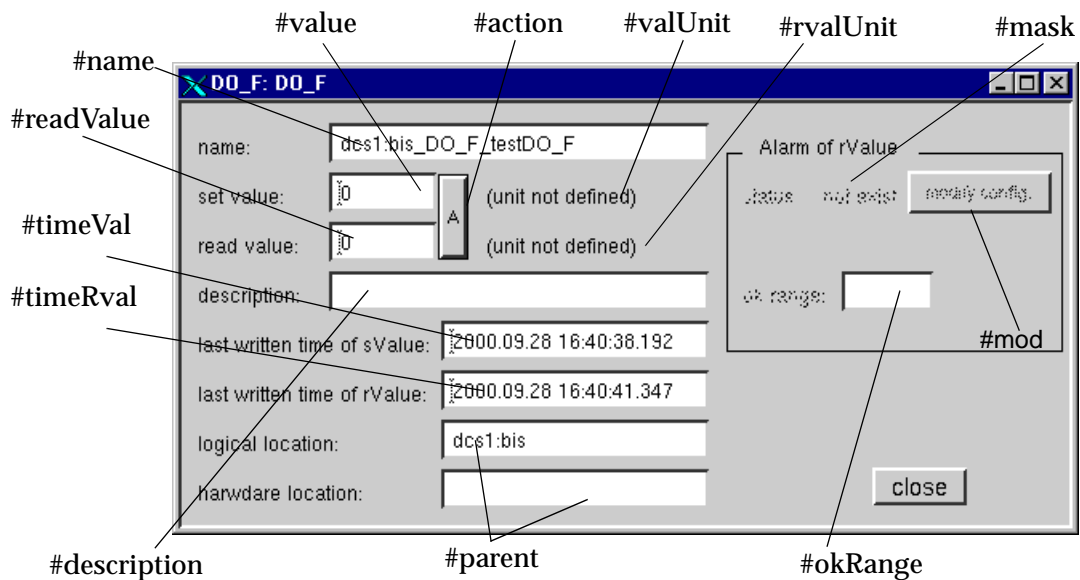

Figure 63: DO_F panel.
Shows the value of 'value' dpElement. The background color follows the rule: Background color convention (Figure 53) for leaf element. described above. E.g. in Figure 63 the
Shows the value of 'readValue' dpElement. The background color follows the rule: Background color convention (Figure 53) for leaf element. described above. E.g. in Figure 63 the background color is white: the element is enabled and there is no alarm defined on the dpElement. If the 'readValue' dpElement of the DO_F element does not have a peripheral address (Section "Peripheral address"), it is possible to set the new value for 'readValue' dpElement by typing new value to text field and pressing 'enter'.
Shows the okRange for defined alarm of the 'readValue' dpElement, e.g. in Figure 63 alarm will be generated when the value will be equal to TRUE (1).